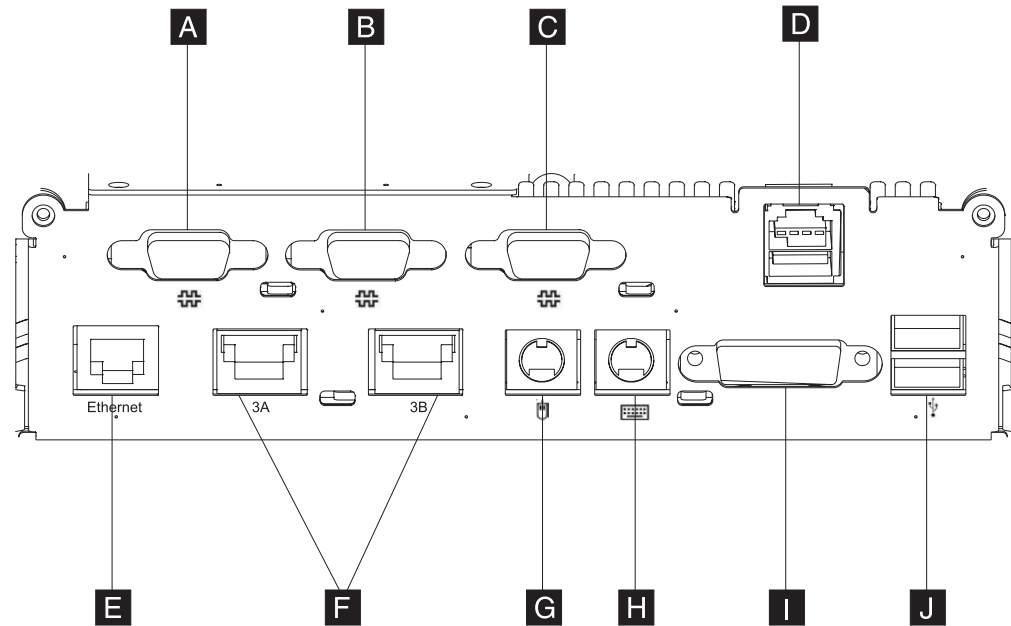

Figure 3. IBM 4851 connectors
Figure 3 shows the SurePOS 500 Model 514 connectors.
2. See Figure 3 on page 5 to view the connectors and for information on routing. Connect the I/O cables.